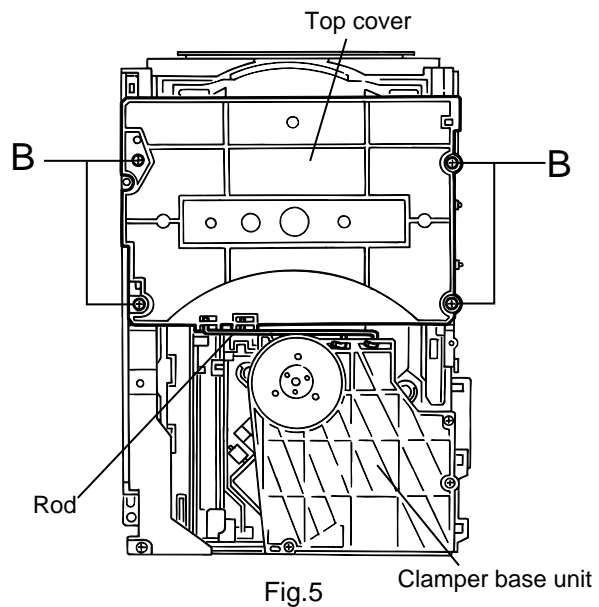

Fig.5
■ **Removing the tray select switch board (See Fig.5,6 and 23)**